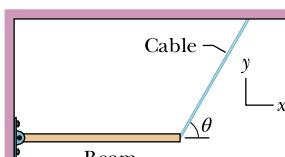

Figure 12.60 Problem 66.
- 66** A uniform beam is 5.0 m long and has a mass of 53 kg. In Fig. 12.60, the beam is supported in a horizontal position by a hinge and a cable, with angle  $\theta = 60^\circ$ . In unit-vector notation, what is the force on the beam from the hinge?